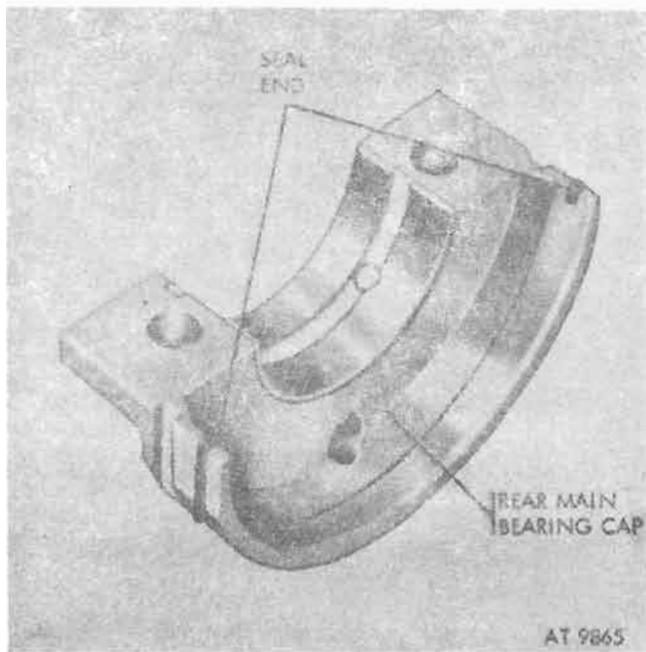

Figure 4-225. Rear main bearing cap side seals installation.
b. *Install Rear Main Bearing Cap Side Seals.* Install the two rear main bearing cap side seals in rear main bearing cap rear grooves with mall side of seal facing inward. Do not cut seal-projecting ends. Use care when installing seals so bearing half is not dropped. Refer to figure 4-225.